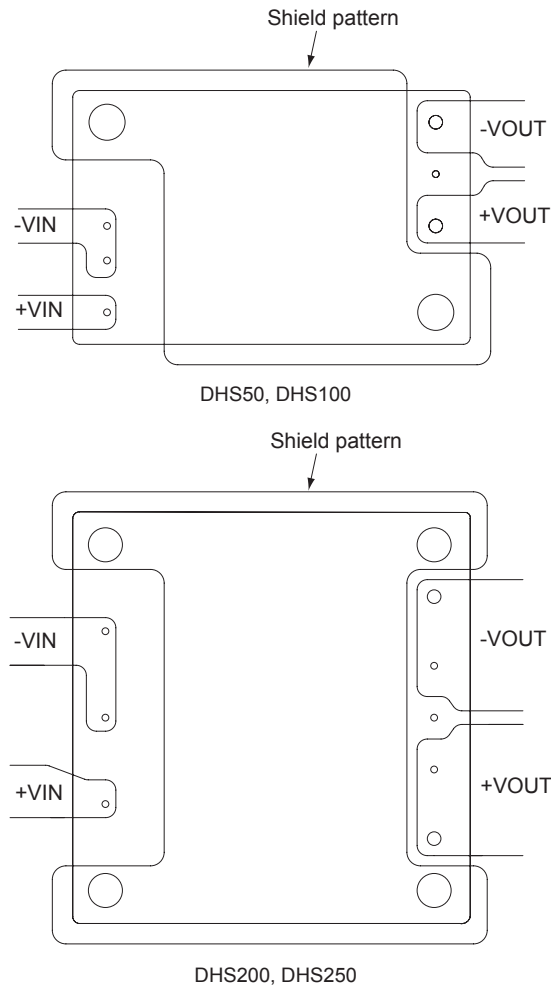

Fig. 6.1 Shield pattern lay out (bottom view)
- Applying excessive stress to the input or output pins of the power module may damage internal connections. Avoid applying stress in excess of that shown in Fig. 6.1.